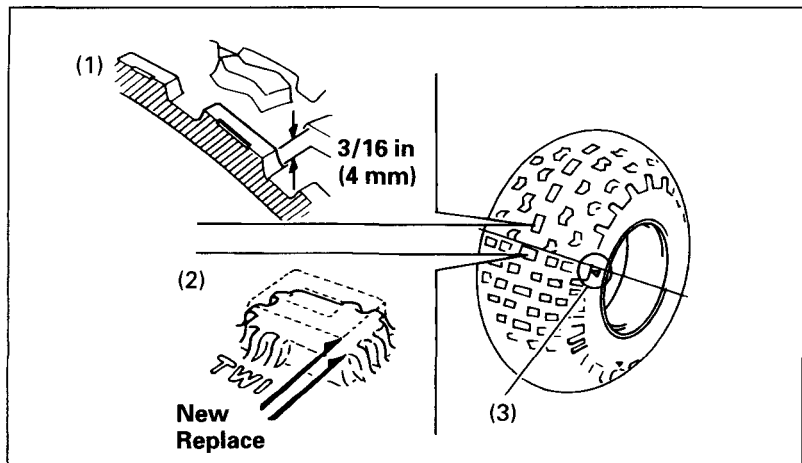

Fig. 4-32 (1) Groove depth
To check the condition of a tire tread, measure the groove depth (1) (Fig. 4-32) in the center of the tire, or check the wear indicator (2).